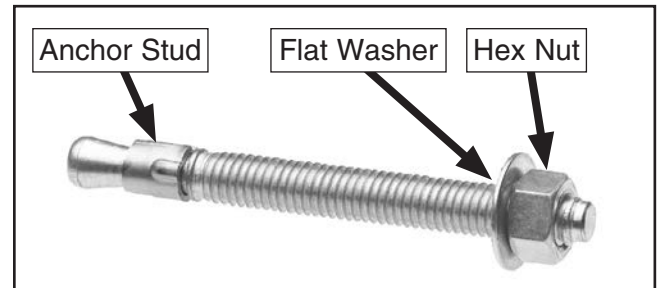

Figure 20. Typical anchor stud.
2. Follow **Steps 4–8** in **Lifting & Placing** on **Page 21**, raise lathe up as needed and install anchor studs (see **Figure 20**) in concrete floor.
3. Lower lathe into position so anchor studs slide into holes in cabinets, then secure anchor studs with hex nuts and flat washers (see **Figure 20**).